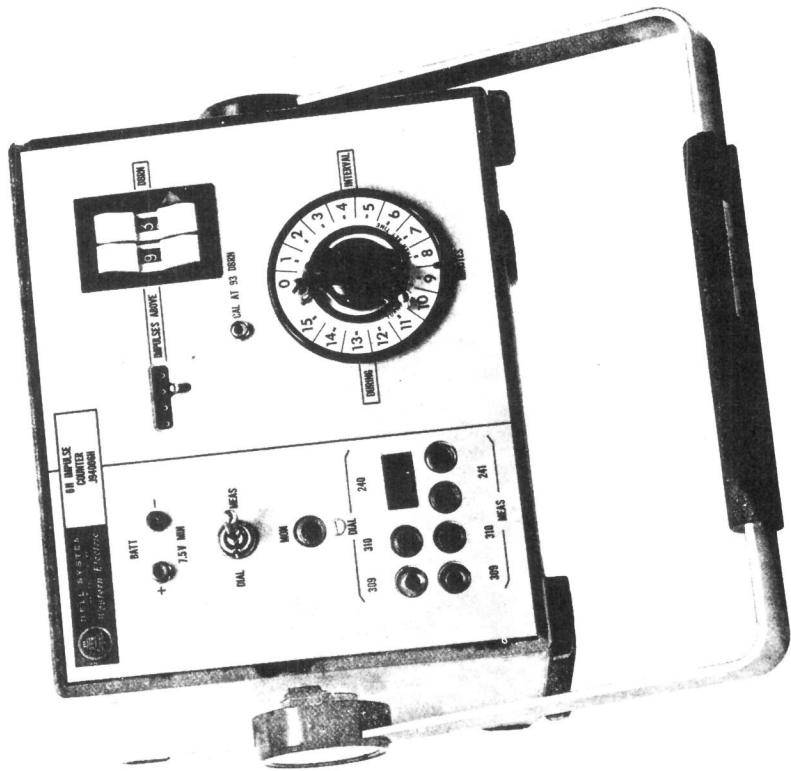

Fig. 1 - 6H Portable Set
2.05 The 6H portable set (Fig. 1) is self-contained and operates from eight, AA-type, 1.5-volt alkaline flashlight batteries connected in series. In normal use (less than 250 counts per hour), the batteries should provide a minimum of 100 hours of operation. Pin jacks on the front panel are available for checking the condition of the batteries with an external voltmeter.